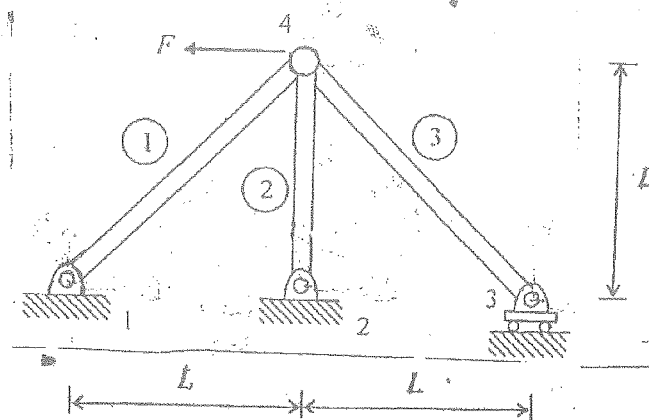

Figure Q5
- b) The truss shown in Figure Q5 is subjected to a horizontal force F at node 4. Let all the members have the same stiffness EA . Using FEM, find the displacement (in terms of F , E , A and L) at node 4.